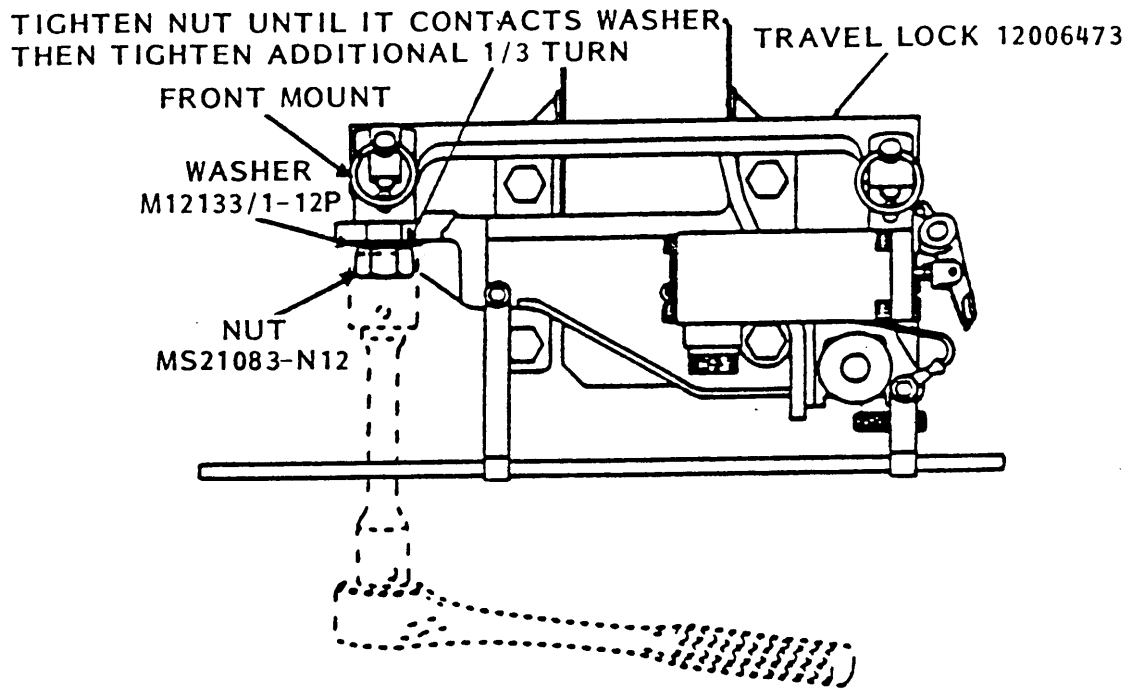

Figure 24. Adjustment of mount with travel lock
- (15) Install travel lock and secure with the two grooved pins 12006408 and 12006420.
- (16) Loosen the front mounting block nut MS21083-N12 (fig. 24).
- (17) Retighten the nut until tension is felt between the nut and washer M12133/1-12P (fig. 24). Then tighten an additional 1/3 turn. Remove the travel lock